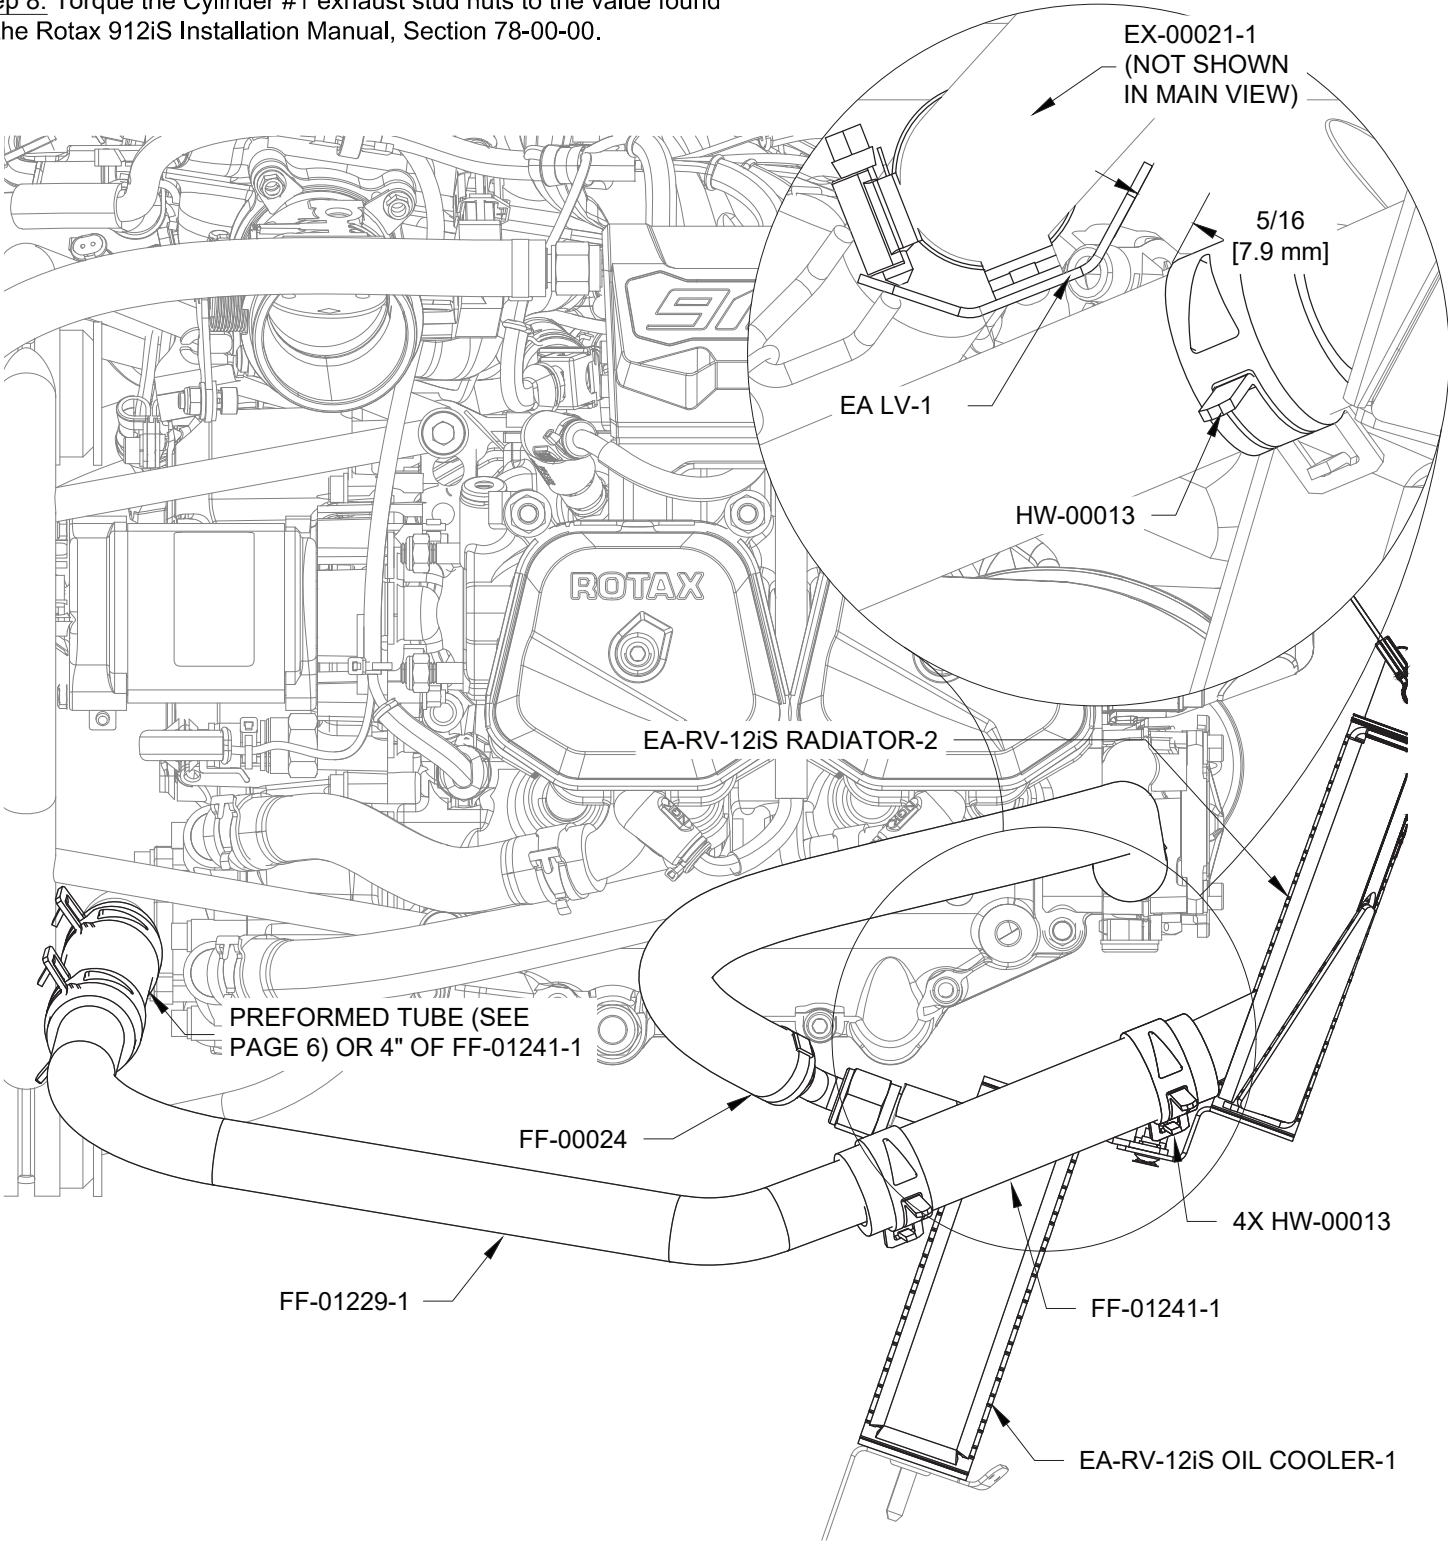

FIGURE 2: RADIATOR & OIL HOSES - RIGHT SIDE
Step 4: Attach the FF-01229-1 to the engine with a FF-01241-1 as shown in Figure 2 using a 4 in. length of the preformed engine hose from page 6.
Step 5: Attach the FF-01229-1 to the EA-RV-12iS RADIATOR-2 with a FF-01241-1 as shown in Figure 2.
Step 6: Attach the FF-00024 to the EA-RV-12iS OIL COOLER-1 as shown in Figure 2.